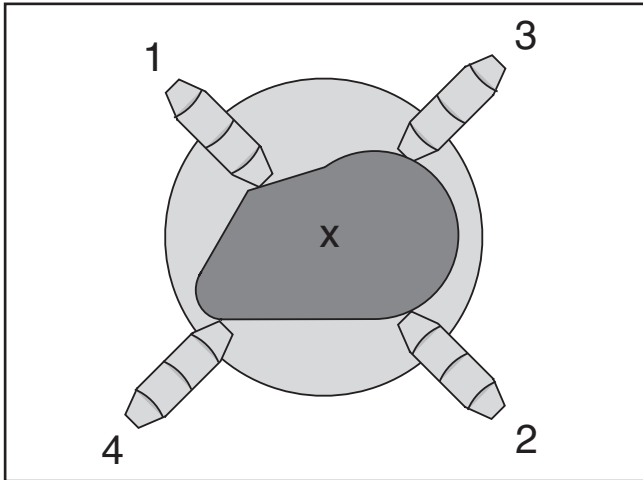

Figure 22. Opposing tightening sequence for the 4-jaw chuck.
- Tighten each jaw in small increments in an opposing sequence, as illustrated in **Figure 22**, until the workpiece is firmly secure in the desired position.